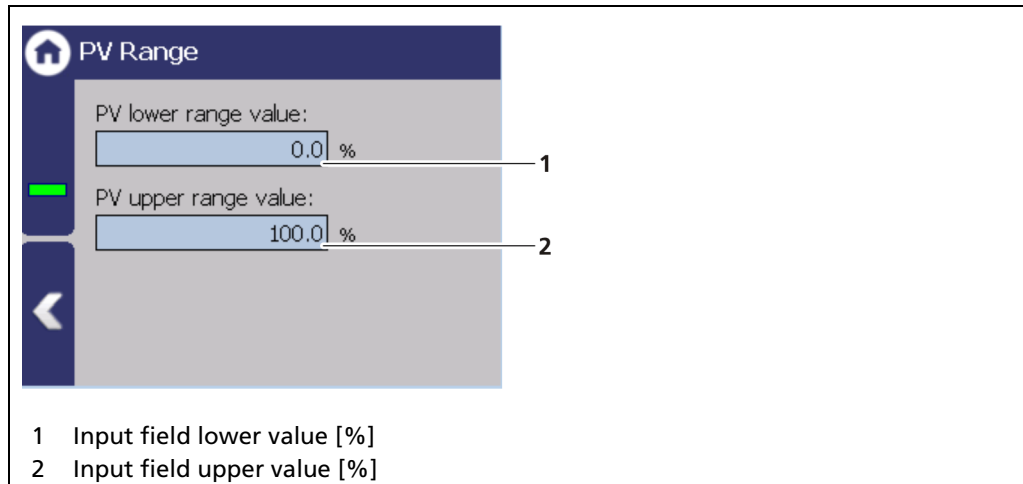

Fig. 104 Signal Condition (PV Range)
1. Click on the input field (Fig. 104, item 1) to enter, in percent [%], the level which should correspond to an output current of e.g. 4mA.
3. Click on the input field (Fig. 104, item 2) to enter, in percent [%], the level which should correspond to an output current of 20mA.